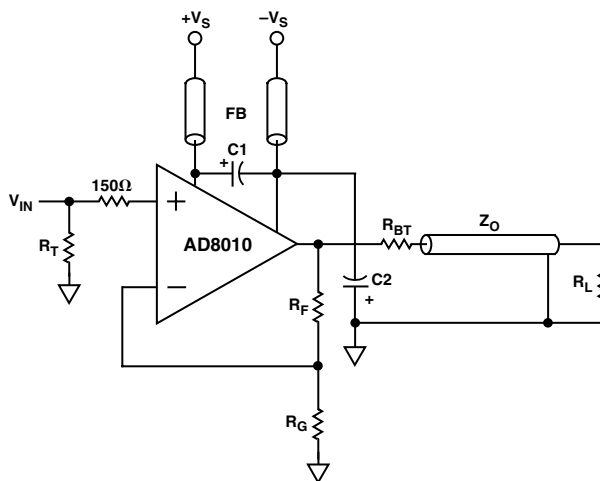

Figure 29. Standard Noninverting Closed-Loop Configuration with Recommended Bypassing Technique
To achieve these levels of performance special precautions with respect to supply bypassing are recommended (Figure 29). This configuration minimizes the contribution from high frequency supply rejection to differential gain and phase errors as well as reducing distortion due to harmonic energy in the power supplies.
The standard noninverting closed-loop configuration with the recommended power supply bypassing technique is shown in Figure 29. Ferrite beads (Amidon Associates, Torrance CA, Part Number 43101) are used to suppress high frequency power supply energy on the DUT supply lines at the DUT. C1 and C2 each represent the parallel combination of a  $47 \mu\text{F}$  (16 V) tantalum electrolytic capacitor, a  $10 \mu\text{F}$  (10 V) tantalum electrolytic capacitor and a  $0.1 \mu\text{F}$  ceramic chip capacitor. Connect C1 from the  $+V_S$  pin to the  $-V_S$  pin. Connect C2 from the  $-V_S$  pin to signal ground.
NOTE: Please see Figure 29 for Recommended Bypassing Technique.
3. Bypassing per Figure 29.